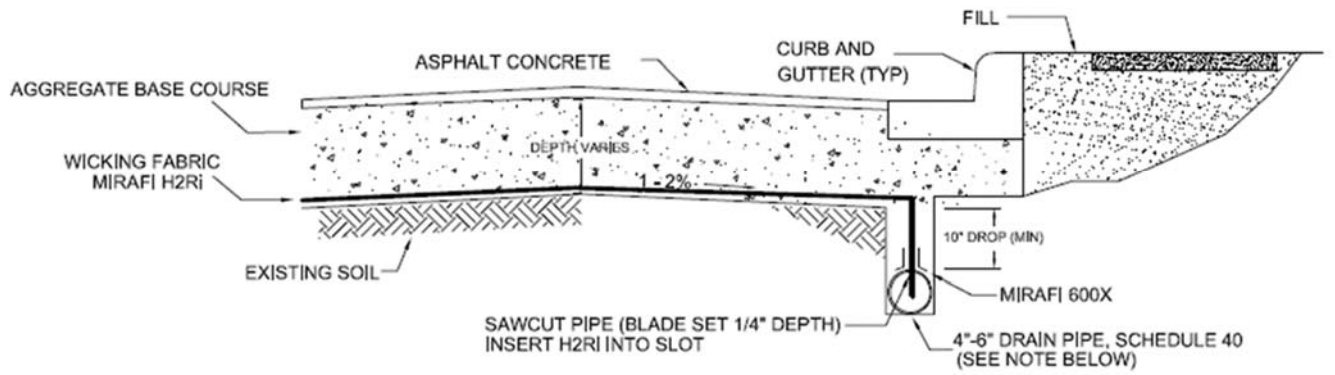
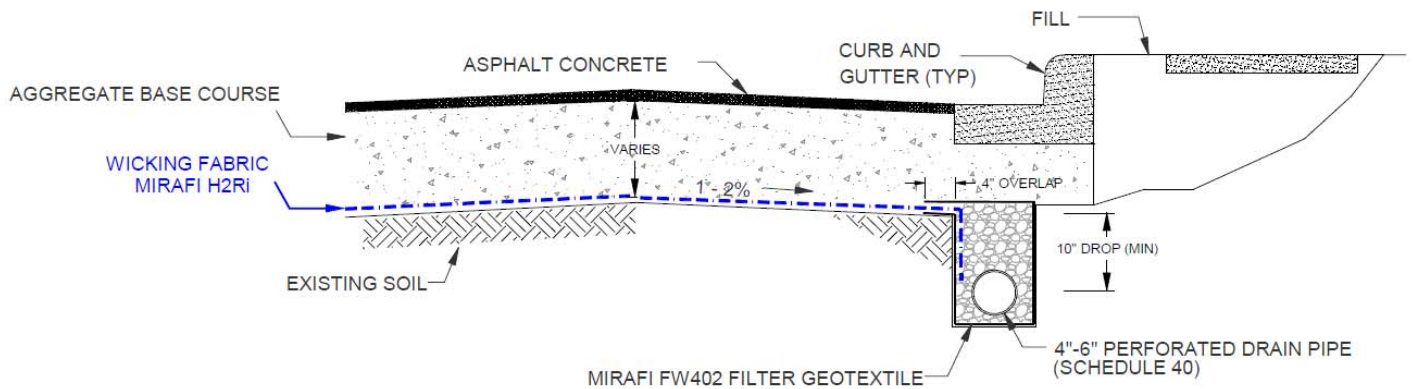

Figure 7a: Piping Detail
Figure 7b: Alternate Piping Detail
5. Piping – This approach should be used for designs with existing curb and gutter, or where the shoulder elevation is flat, edge drains are required to daylight water. In this approach the Mirafi® H2Ri is terminated into either a traditional trench drain with a perforated pipe (Figure 7b) or into a non-perforated, saw-cut pipe (Figure 7a). A minimum 4" (100 mm) diameter HDPE drain pipe is recommended for use in these applications. A vertical drop of 10" (250 mm) between the elevation of the geotextile and the top of pipe is recommended to initiate a siphon effect in the wicking channels, as shown in Figure 7a and 7b and Image 12. This amount of vertical gradient inhibits inward wicking back into the cross section, as the estimated maximum uphill moisture movement capability of Mirafi® H2Ri is approximately 8" (200 mm). When using a sawcut pipe, the Mirafi® H2Ri should be inserted into slot at the top of the pipe. Mirafi® 600X separation geotextile may be used to cover the sawcut interface, to shield soil from entering the pipe, as shown in Figure 7a.